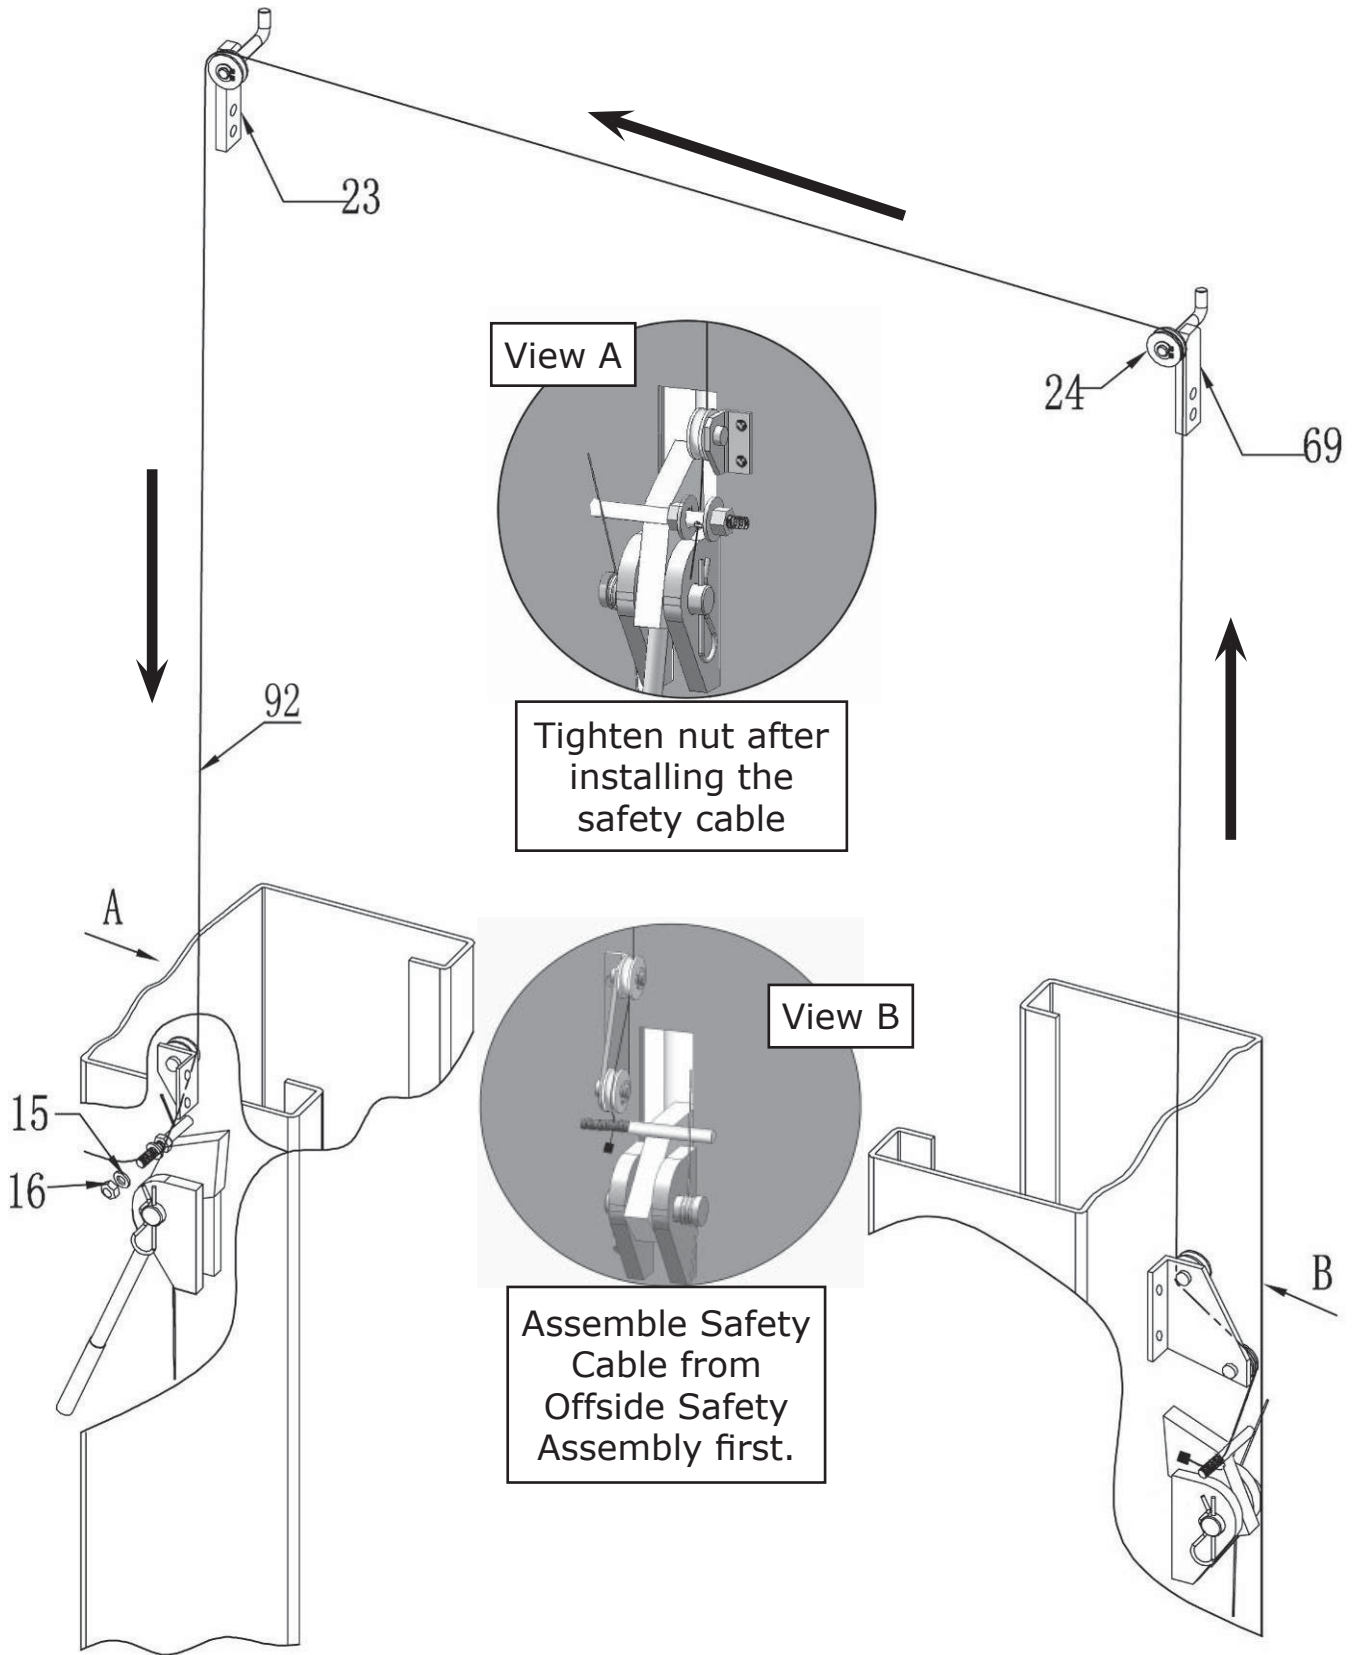

Fig. 25
M. Install Safety Cable (See Fig. 25)